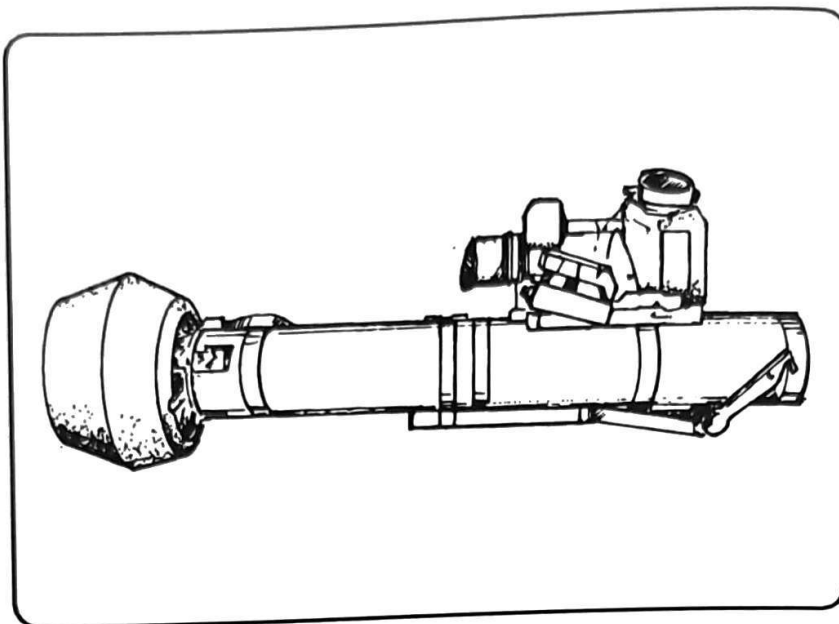

Figure 7-7. Prone firing configuration.
(1) The round is ready to fire with the bipod collapsed, the tracker mounted, and the front shock absorber removed. (Figure 7-7).
(2) Place the body at a 90-degree angle to the launcher to remain outside the backblast area.
(3) Lay the launcher across the right bicep with the bipod on top of the bicep. Encircle the round with the right arm so the right hand can grasp the firing mechanism.